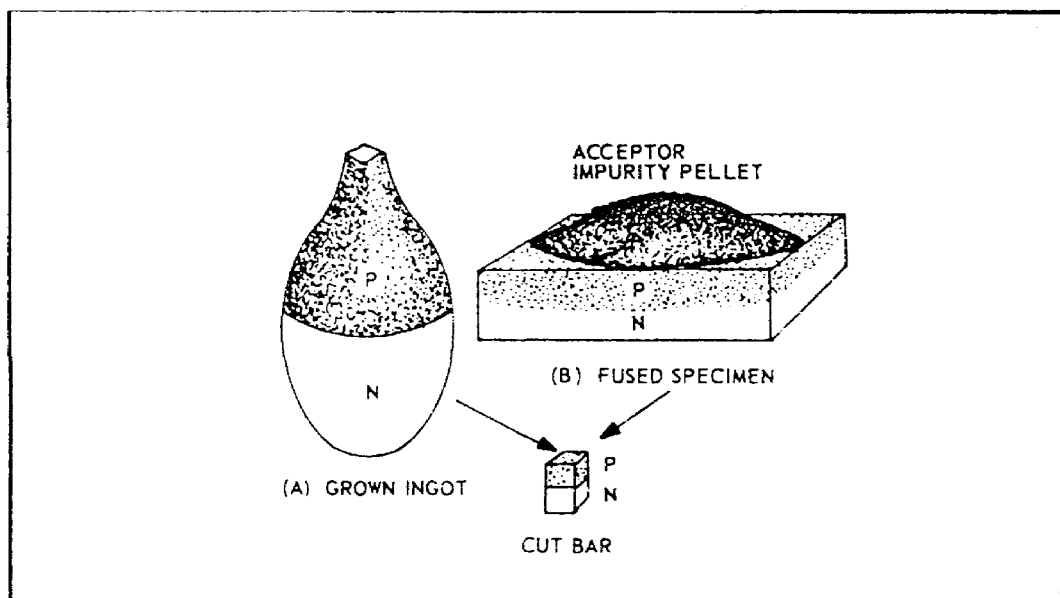

FIGURE 77. GROWN AND FUSED PN JUNCTIONS.
(1) *Grown*. In this method of manufacture, P-type and N-type impurities are mixed into a single crystal. By so doing, a P-region is grown over part of a semiconductor's length and an N-region is grown over the other part. This is called a GROWN junction and is illustrated in figure 77, view A.
(2) *Alloy or Fused-Alloy*. In this method, an impurity of one type is melted into a semiconductor of another type impurity. For example, a pellet of acceptor impurity is placed on a wafer of N-type germanium and heated. Under controlled temperature conditions, the acceptor impurity fuses into the wafer to form a P-region within it, as shown in view B of figure 77. This type of junction is known as an ALLOY or FUSED-ALLOW junction and is one of the most commonly used junctions.